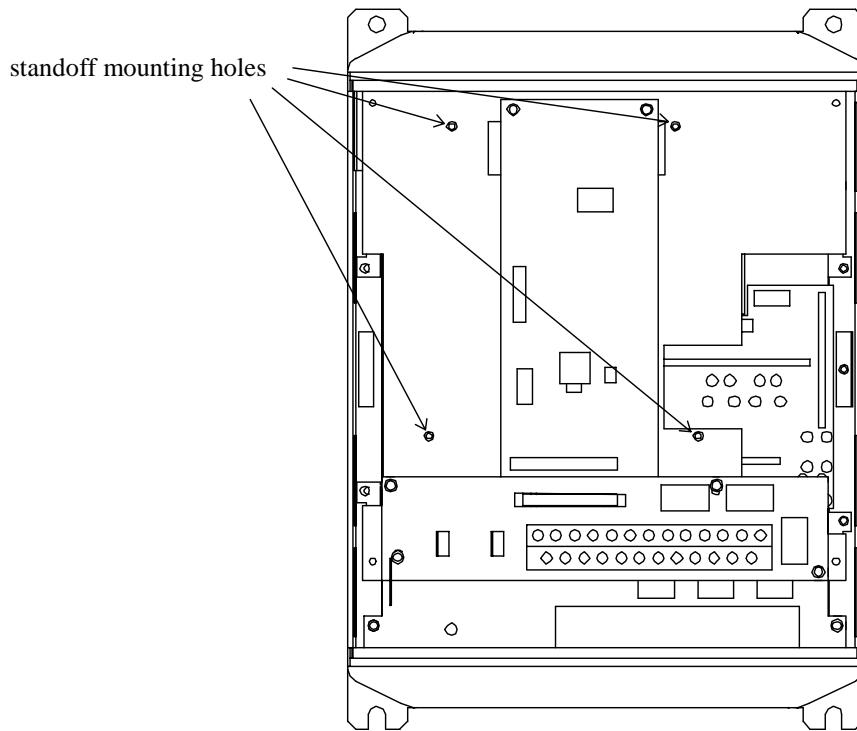

Figure 2: G3 with front cover and operation panel support bracket removed
- 8. Install the 4 plastic option board standoffs into the holes provided in the control board support bracket (refer to Figure 2).